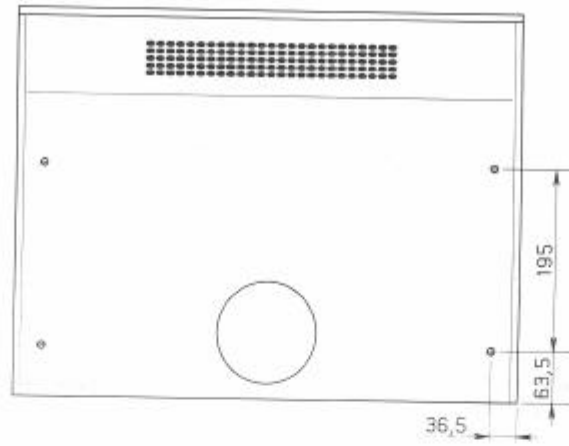

Fig. 7
- Fit the 4 4.2x35 screws supplied, from inside the cabinet in the holes on the appliance (fig. 7).